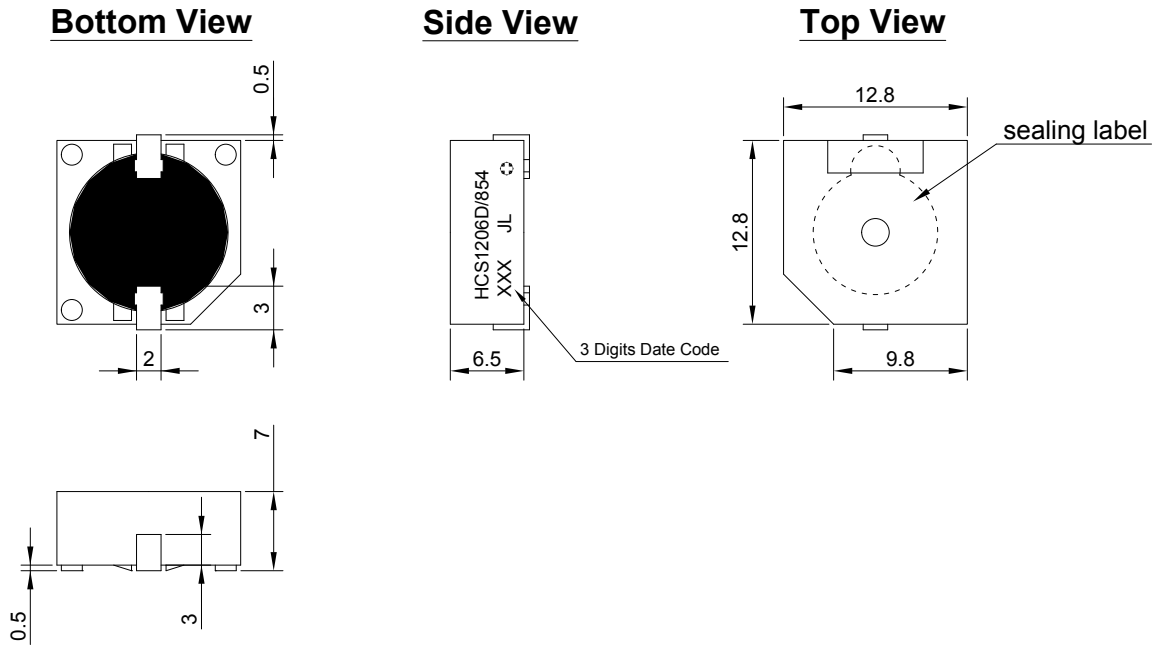

Figure 4. HCS1206D/854 Mechanical Layout
4.3.1. Layout and Dimension	: See Section 7, Figure 4